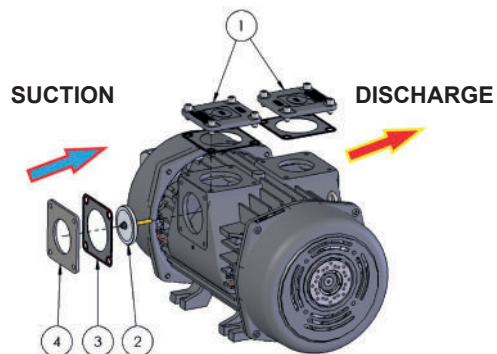

Fig. G.10 - Version without four-way valve
- Remove the side plates **pos.1 Fig. G.10**.
- Remove the non-return valve **pos.2 Fig. G.10** and reassemble it horizontally in the appropriate housing in the suction inlet, or provide an in-line valve on the main piping.
- Provide a stop plate **pos.4 Fig. G.10** for the check valve (request **Moro Kaiser srl** code).
- Refit the side plates **pos.1 Fig. G.10** on top of the pump.